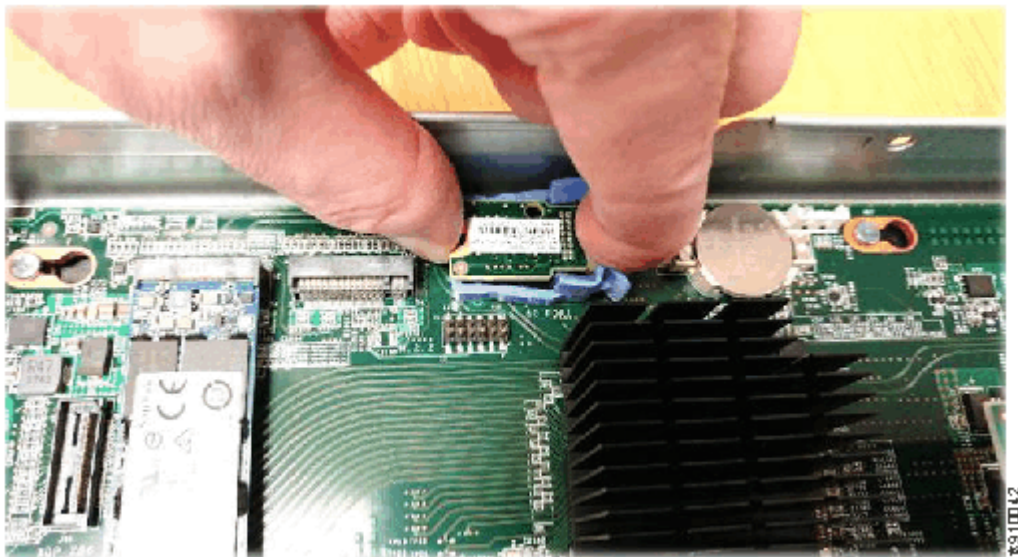

Figure 90. Removing the TPM
7. Insert your finger tip between the latches and hold the TPM between your thumb and finger, as shown in Figure 90 on page 143.